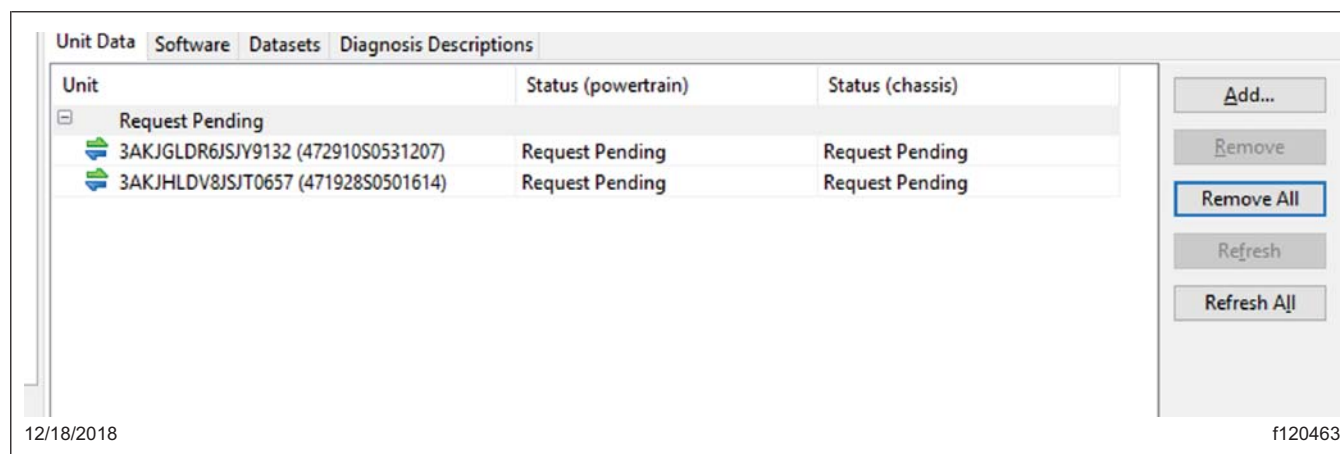

Fig. 2, Removing Pending Requests
4. Select "Program Device." If there are any items in the section "Request Pending," they should be removed. To remove them, select the "Request Pending" list item, then press the "Remove All" button. See Fig. 2.